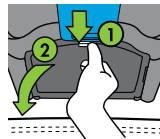

Figure 33
Open UAS Bin Door by pressing and holding top of Lock Tab (1) then rotating UAS Bin Door down (2), as shown in **Figure 33**.